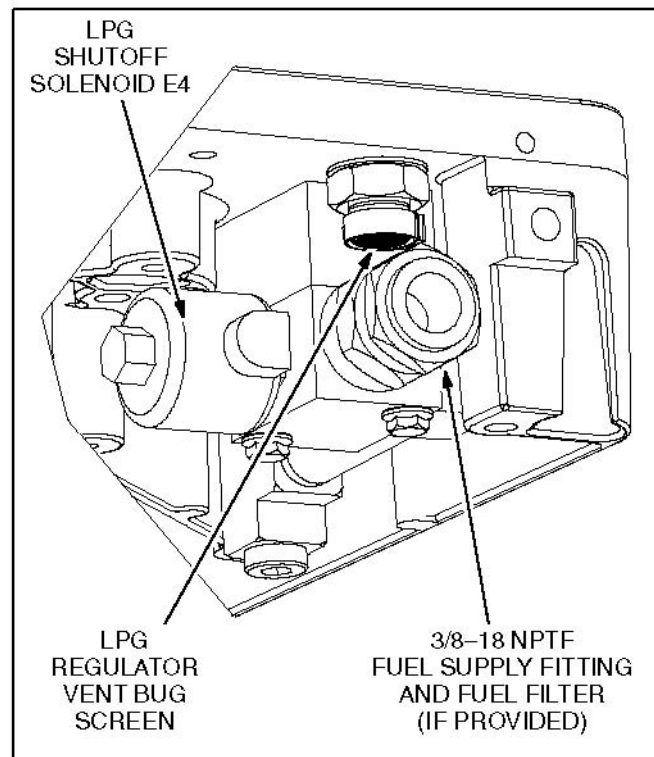

FIGURE 54. LOW PRESSURE LPG FITTING
1. If there is a smell of gas when the generator set is not running, or any other reason to suspect that the valve (Figure 54) is leaking, connect the inlet of the valve to a source of air pressure regulated to not more than 14 in WC (35 cm).
1. Remove the filter at the inlet to the solenoid (Figure 54), if provided.